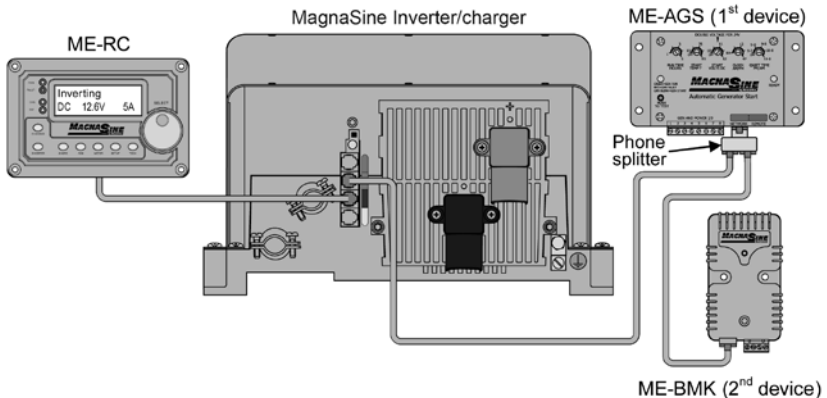

Figure 2-5, Multiple Network Devices - Daisy-Chain Configuration
- **Daisy-Chain Configuration** - In the daisy chain arrangement, the network devices are linked in series (see figure 2-5). If using this configuration, the ME-AGS must be the first device connected to the inverter's "MagnaSine Net" or "network" port - then followed by the ME-BMK.